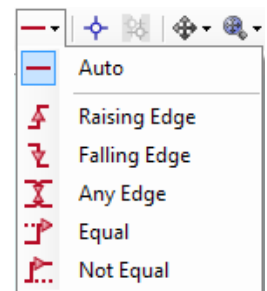

Figure 12: Trigger mode.
1. Select a trigger mode from the **Select triggers** pull-down menu (Figure 12):